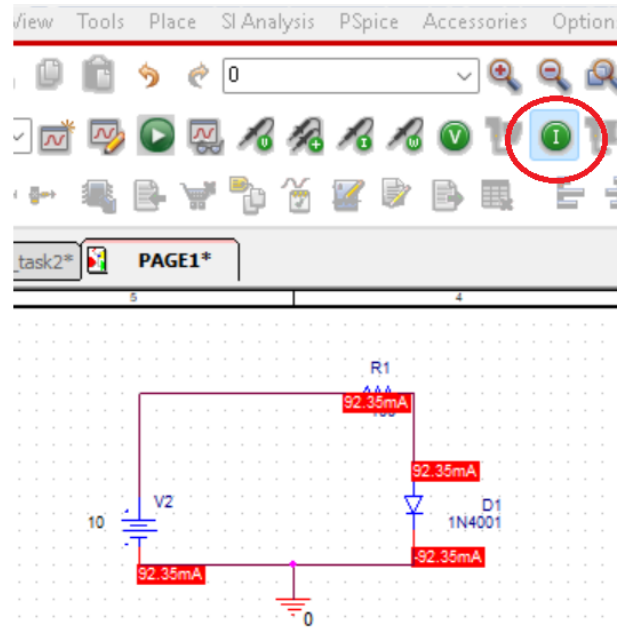

Figure 1.8b: Current value of the branches
- 💡 We usually do not use current markers for DC voltages, only select the analysis type to BIAS POINT and you can run the simulation. The voltages or currents will directly appear on the circuit diagram, it is necessary to specify which parameter you want to have displayed. Values of current for the circuit under observation have been displayed on the circuit diagram, Refer Figure 1.8b and observe that the option  of **current** has been selected.
16. Now, place a current marker to measure diode current entering the anode terminal, refer figure 1.8b. Run the simulation, refer Figure 1.10. A plot for anode current will be displayed. By default, the x-axis variable of sweep analysis simulation is the sweep variable i.e., source voltage. But VI-characteristic curve is plot of **diode current** as a function of **anode-to-cathode voltage**. To change x-axis variable, go to *Plot > Axis Settings*. In X-Axis tab, select *Axis Variable*. The trace for anode to cathode voltage should be added in Trace Expression. If the diode model name is D1, under Simulation Output Variables the anode voltage expression will be $V(D1:1)$ or $V(D1:AN)$. It's important to understand the trace expressions. The first alphabet is measurement (V-voltage, I-current), then in brackets the component name is followed by its terminal (D1-diode model name in our schematic, and terminal 1 or AN-anode is specified with it after colon). The anode to cathode voltage expression can be added as: $V(D1:AN) - V(D1:CAT)$.